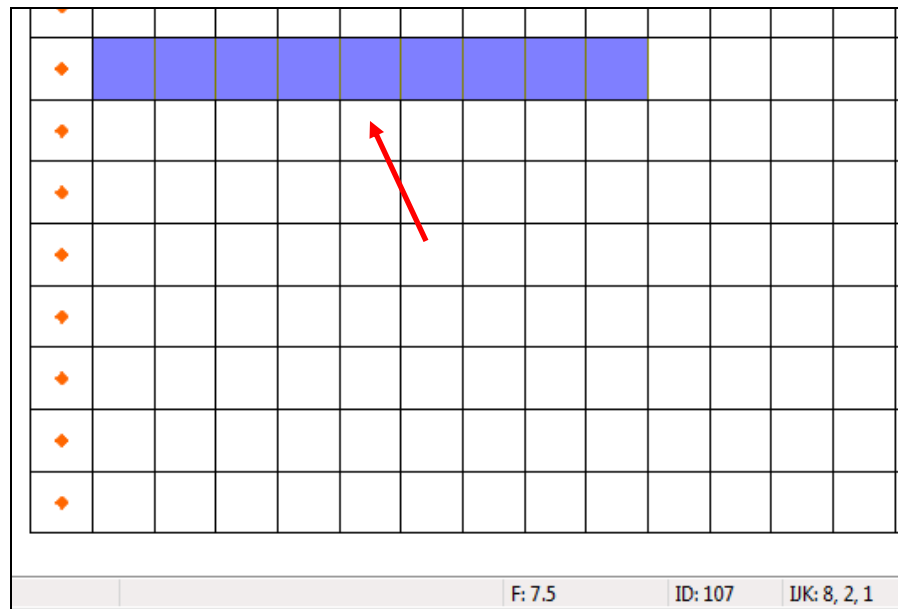

Figure 5 Cells to be selected
- Using the **Select Cells**  tool while holding down the *Shift* key, draw a box selecting cells 2–10 on row 8 (Figure 5).